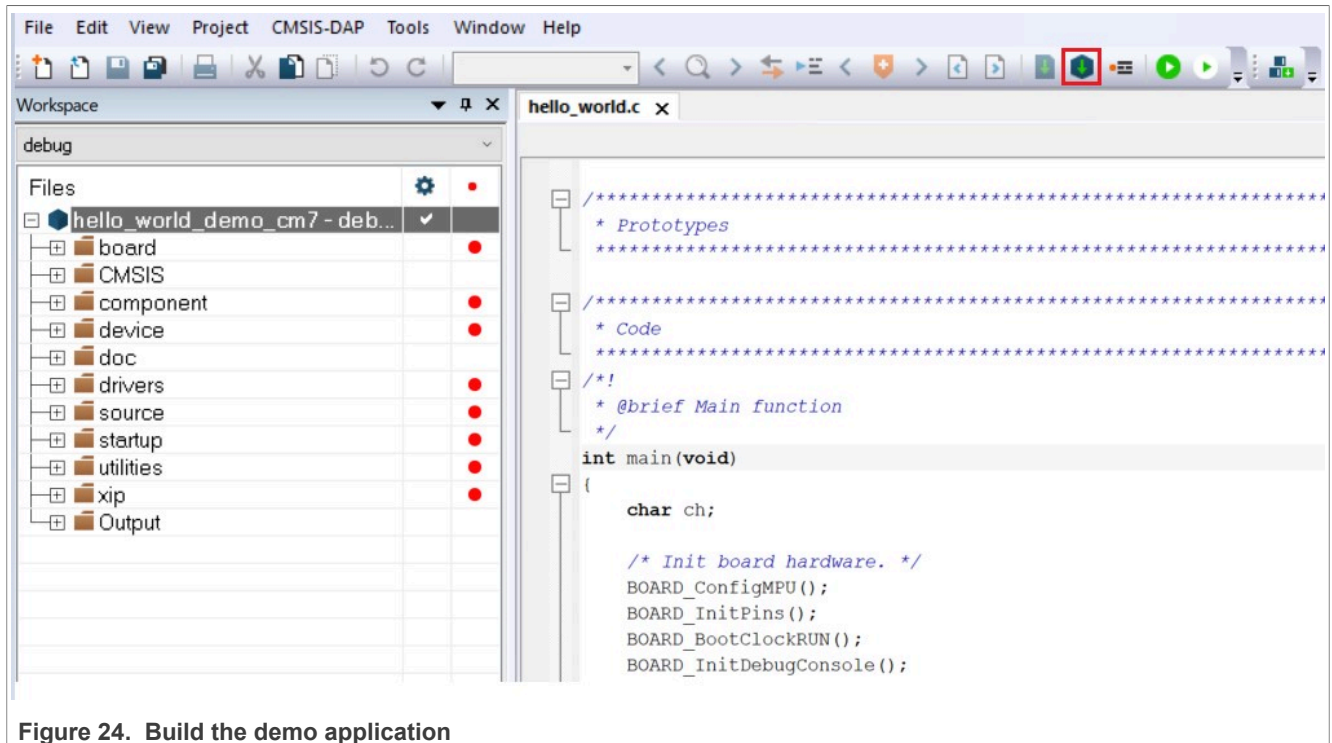

Figure 24. Build the demo application
3. To build the demo application, click **Make**, highlighted in red in Figure 24.